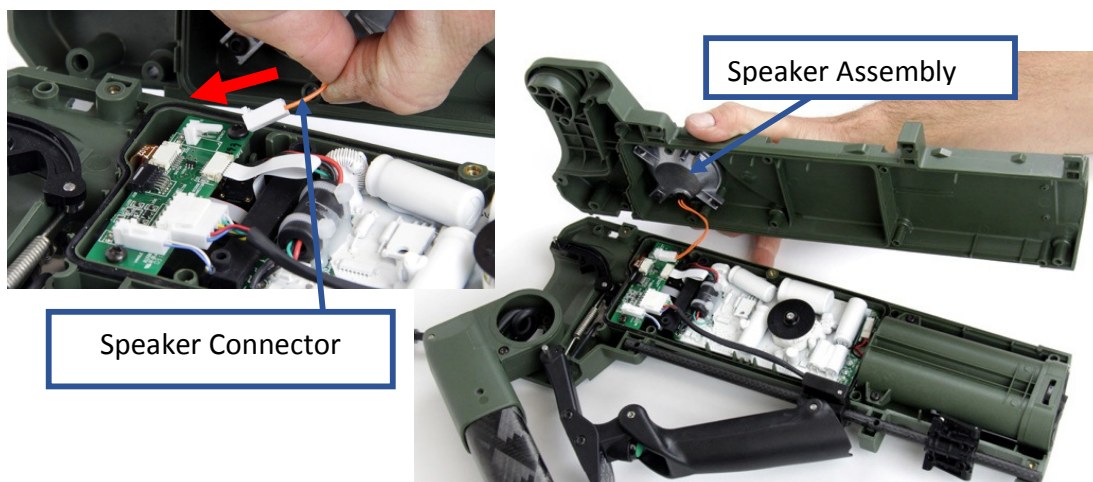

Figure 20: Connecting Speaker
- Connect the speaker connector to the interface PCB. Check all other connectors and cables are connected. Figure 20.